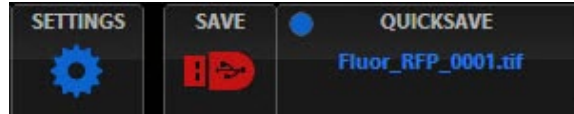

Figure 38 Settings Button
1. Click the **Settings** button to open the Settings dialog box, and then select the Channels tab. (Figure 38)